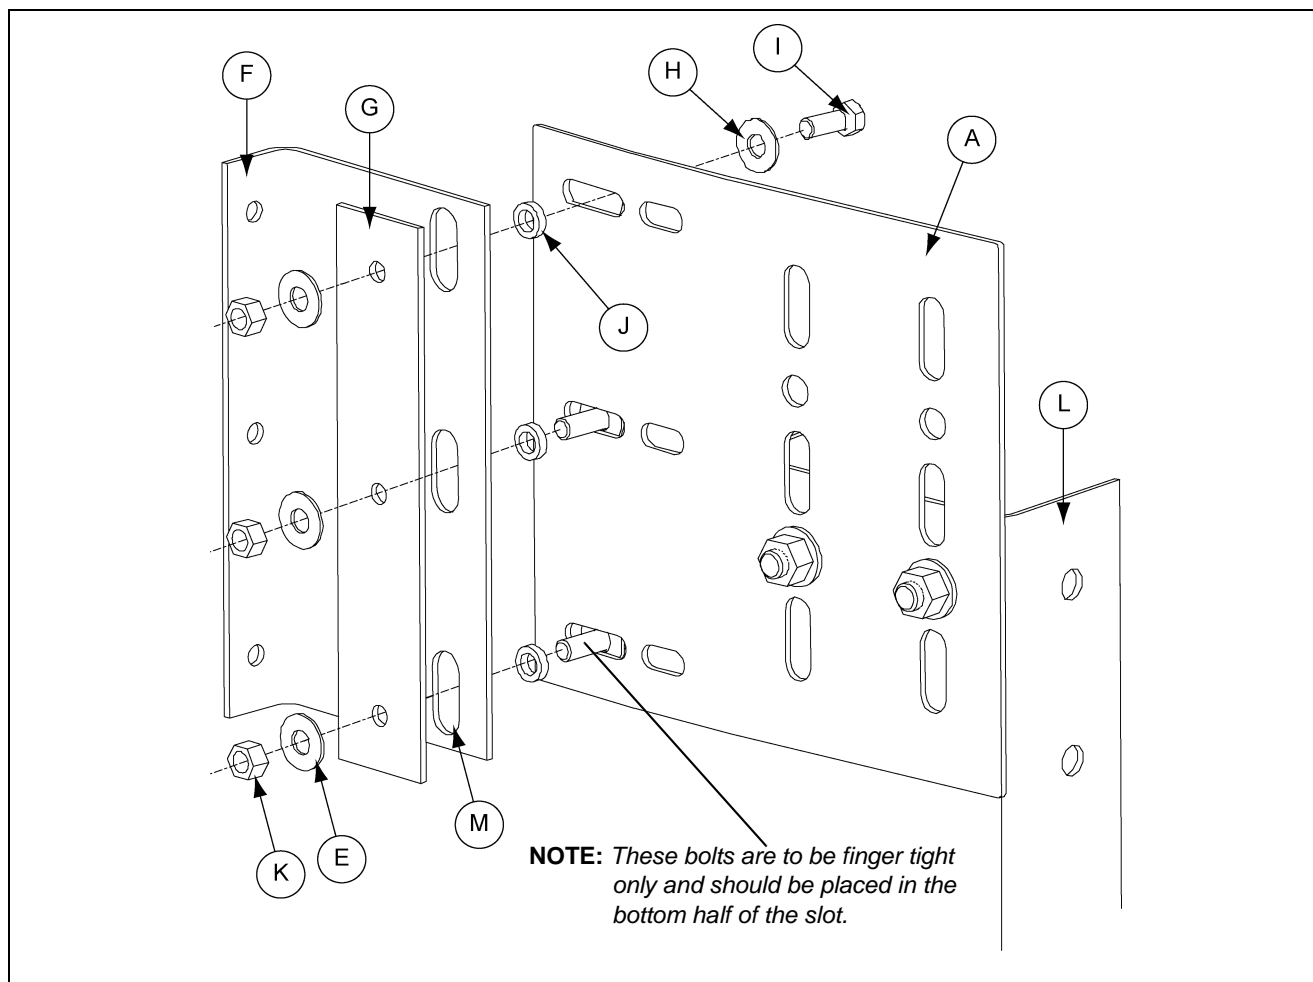

Figure 2J
2. Attach bin brackets (**STF00016**) and backing plates (**STF00021**) to lateral brackets using three (3) 3/8" x 1" HHCS bolts, three (3) spacers, six (6) washers and three (3) hex nuts as shown in Figure 2J for each column. **NOTE:** Bolts should be placed in the bottom half of the bin bracket slots. Fasten only finger tight to allow bin to settle.